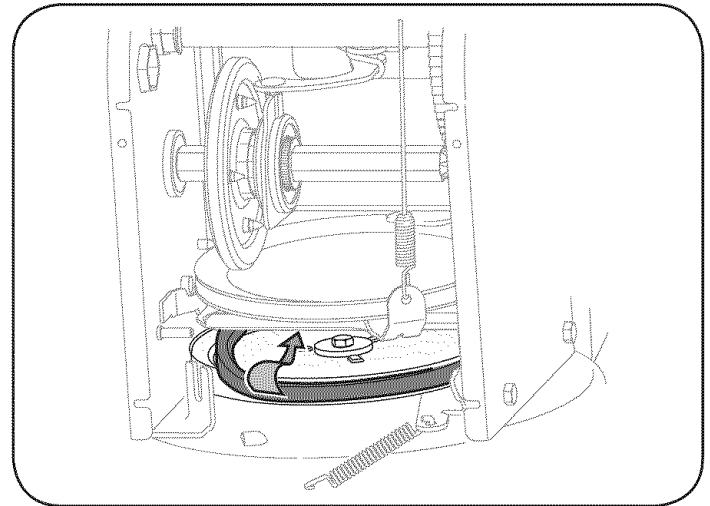

Figure 25
- Remove the belt from around the auger pulley, and slip the belt between the support bracket and the auger pulley. See Figure 25.